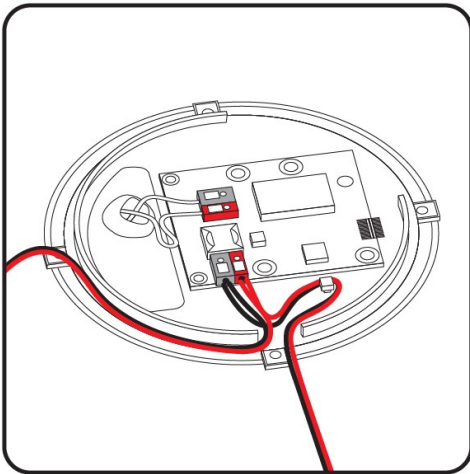

Figure 17: Option A
- **Using 18 AWG cable** – splitting the DC power can be done directly with the PCBA connector—see Figure 17: Option A.